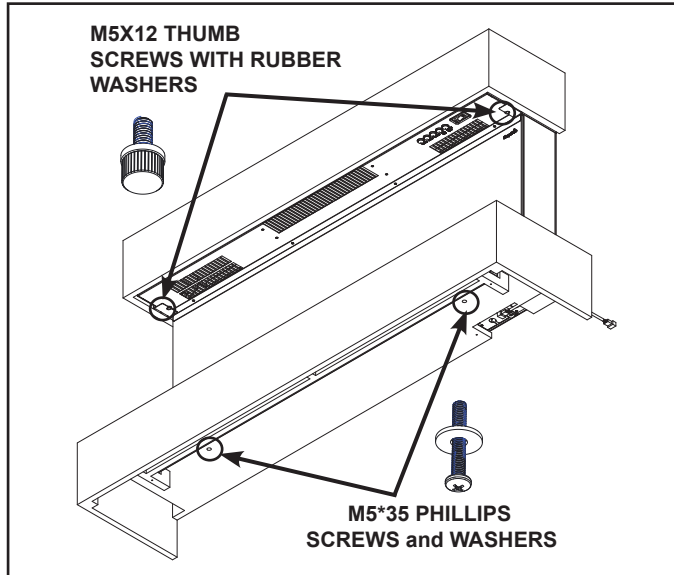

Figure 5
2. Fasten the bottom mantel section to the appliance with two M5\*35 Phillips screws. See Figure 5.
- Secure the top mantel to the appliance using two (2) M5X12 thumb screws with rubber washers. See Figure 5.